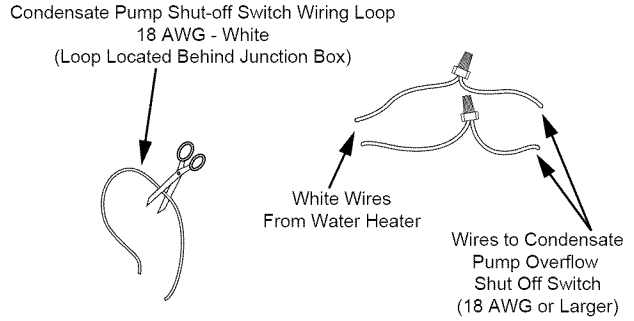

FIGURE 16.
2. Locate the white 18 AWG wire loop behind the field wiring junction box. See Figure 16.
3. Cut the loop and strip insulation off of the two ends. See Figure 16.
4. Measure the distance from the field wiring junction box to the condensate pump, and cut two 18 AWG or larger wires to correct length and strip the insulation at both ends of each wire. See Figure 16.
6. Press the power button (See Figure 16) to turn the water heater on and allow it to run a system diagnostic check. This typically takes eight minutes. Once complete, proceed to the next step.